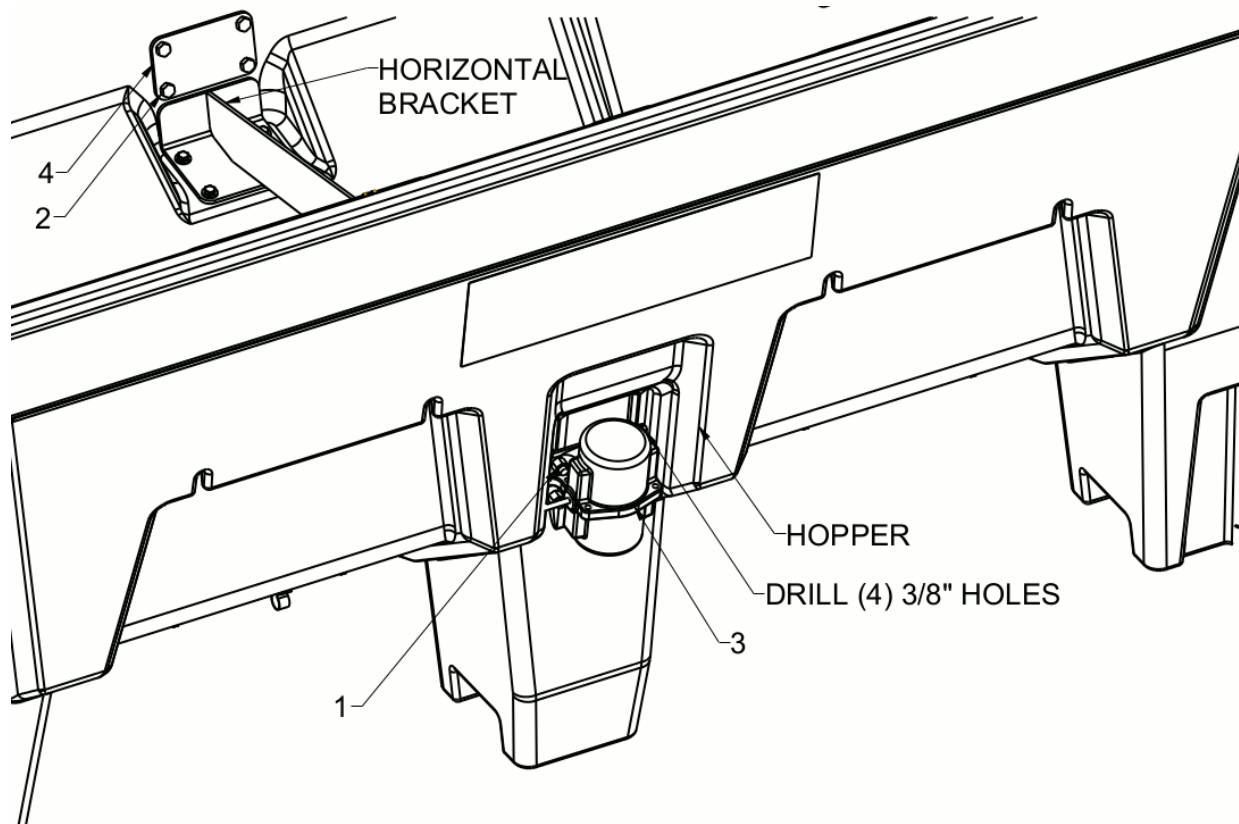

Figure 2: Vibrator Location (Note: dual kit shown)
1. Align Backing Plate (4) onto side of Hopper and mark hole locations for drilling. Drill four 3/8" holes through slots in Hopper. Holes can be drilled from either inside or outside of Hopper. Vibrator can be attached to either driver side or passenger side.
Note: If applicable, be sure Backing Plate (4) is above Horizontal Bracket of Inverted V inside Hopper. Refer to Figure 2. Inverted V is not required for Vibrator Kit installation.